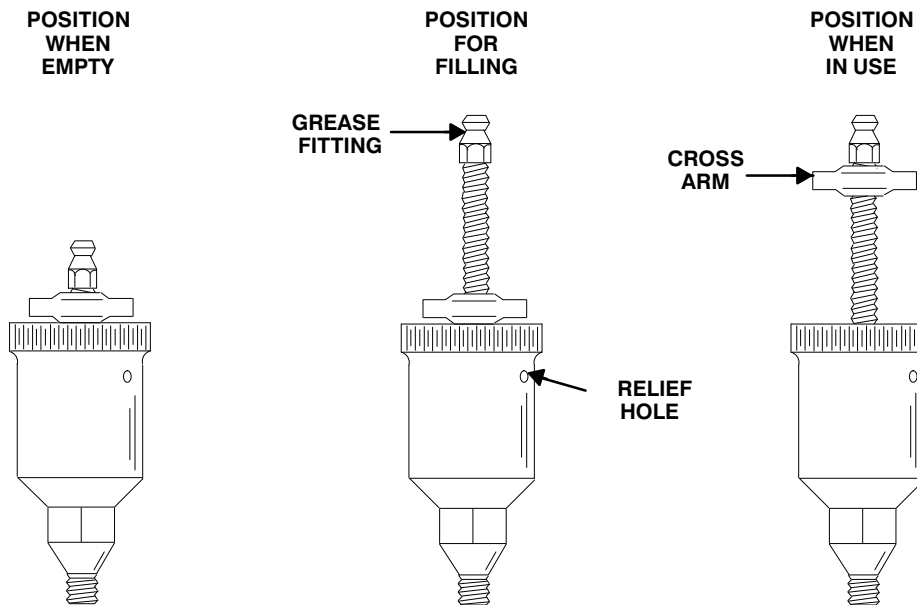

Figure 3. Automatic Lubricating Grease Cup
Before removing the impeller, turn the cross arm on the automatic grease cup (6) clockwise until it rests against the cover (see Figure 3). This will prevent the grease from escaping when the impeller is removed.
Fill the grease cup (6) through the grease fitting with No. 2 lithium base grease until grease escapes from the relief hole. Turn the grease cup arm counterclockwise until it is at the top of the stem; this will release the spring to apply grease to the seal (see Figure 3).